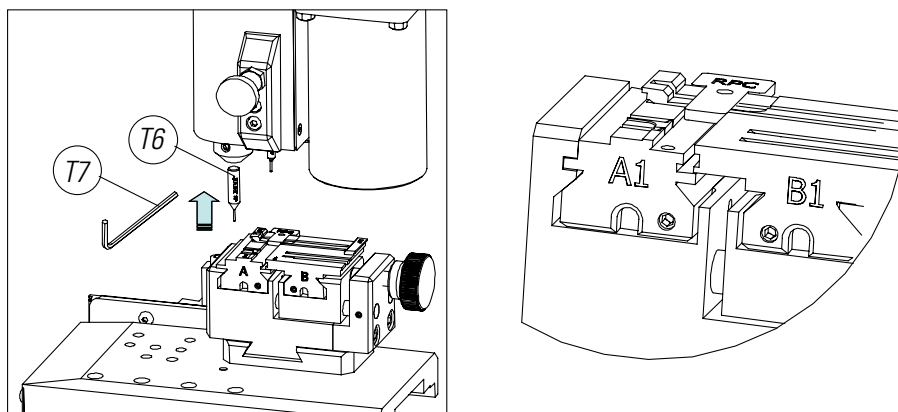

FIG. 24
- 3) Position the RPC adjustment plate in the clamp, from the back side of the clamp (Fig.24).